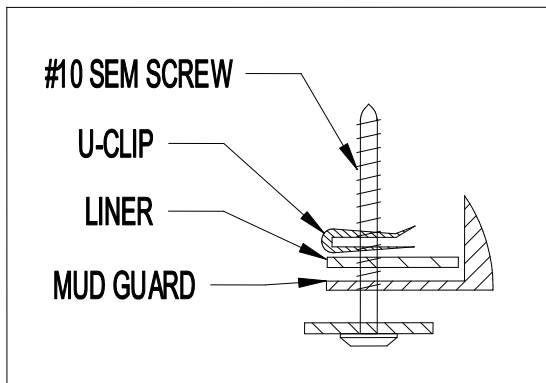

Figure 2
6. Install #10 SEM screw at location D, thru mud guard, fender liner and into a U-clip placed on the backside of fender liner (Figure 2).